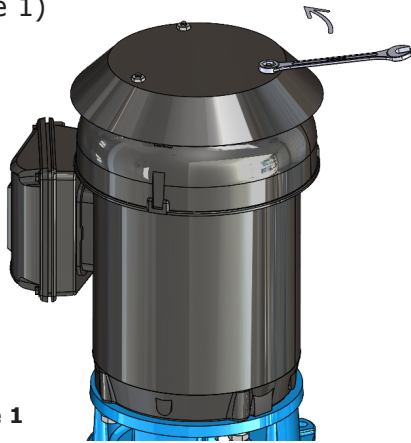

Figure 1
7. Remove drip cover from motor end. (Figure 1)